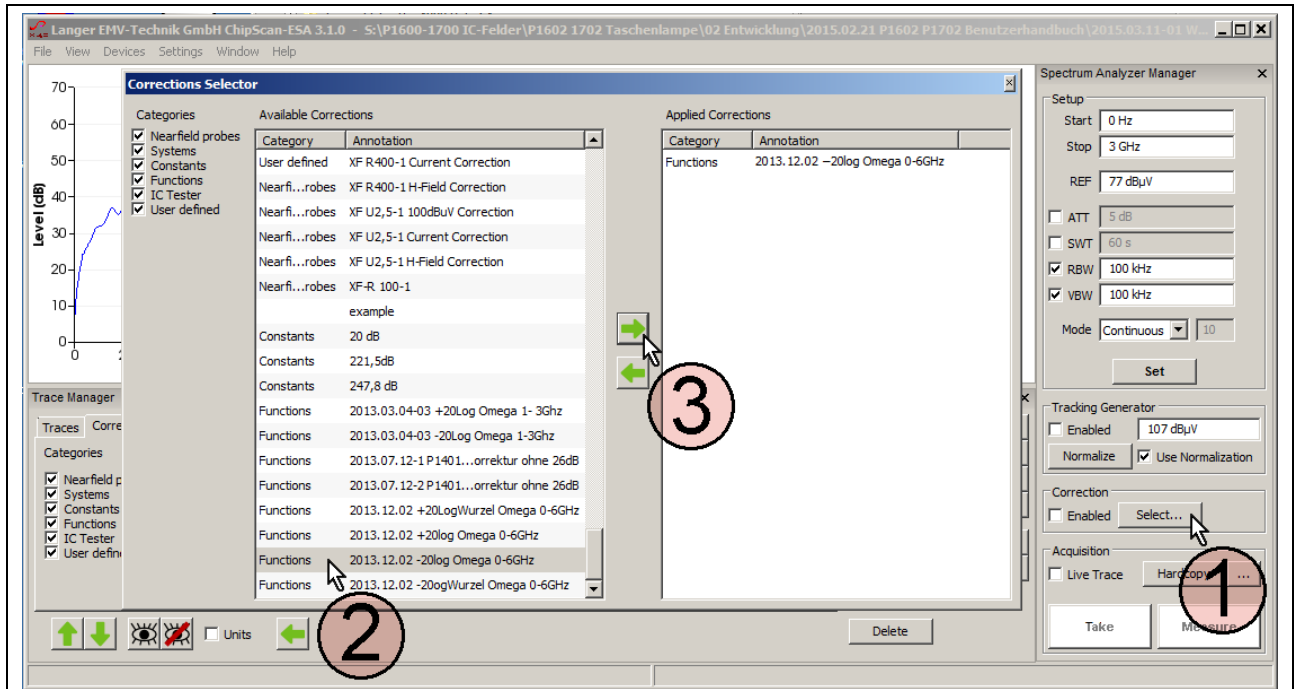
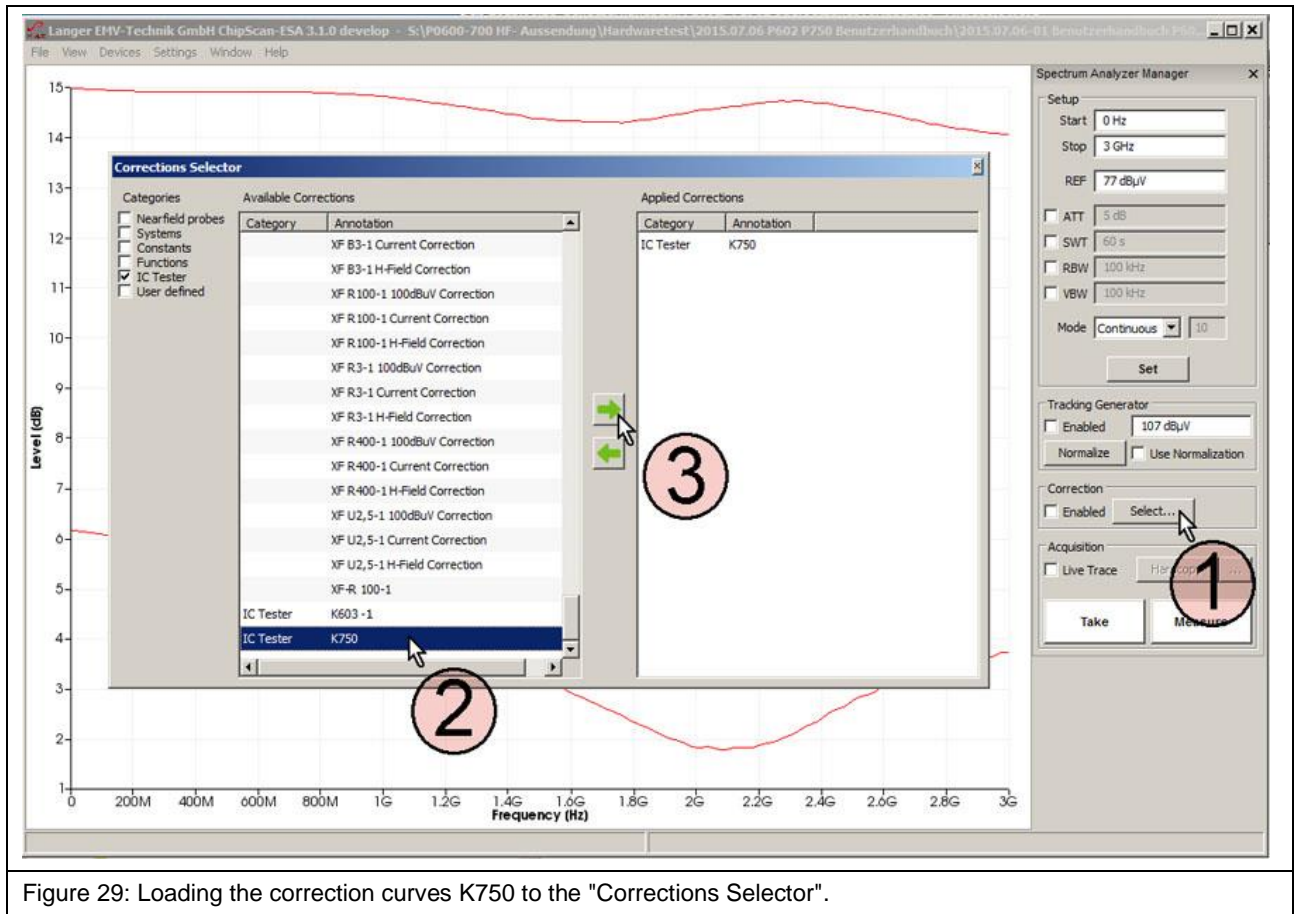

Figure 28: Using mathematical functions by activation in the "Corrections Selector".
Figure 29: Loading the correction curves K750 to the "Corrections Selector".
Mathematical functions can also be used (**Figure 28**): division by ω in the time domain, for example. This corresponds to a subtraction of $20 \text{ Log } \omega$ in the logarithmic form.
Click the Select button (mouse cursor ① **Figure 28**) in the Correction area of the Spectrum Analyzer Manager to select the respective correction curve.
The Corrections Selector window opens **Figure 28**. Click and activate the correction curve $-20 \text{ Log } \omega$ with the mouse cursor ②. Click the "Arrow right" ③ button to move the correction curve to the Applied Corrections list. Other correction factors and correction curves (**Figure 29**) such as K603-1 or K750 can be loaded in the same way or selectively (**Figure 29**).